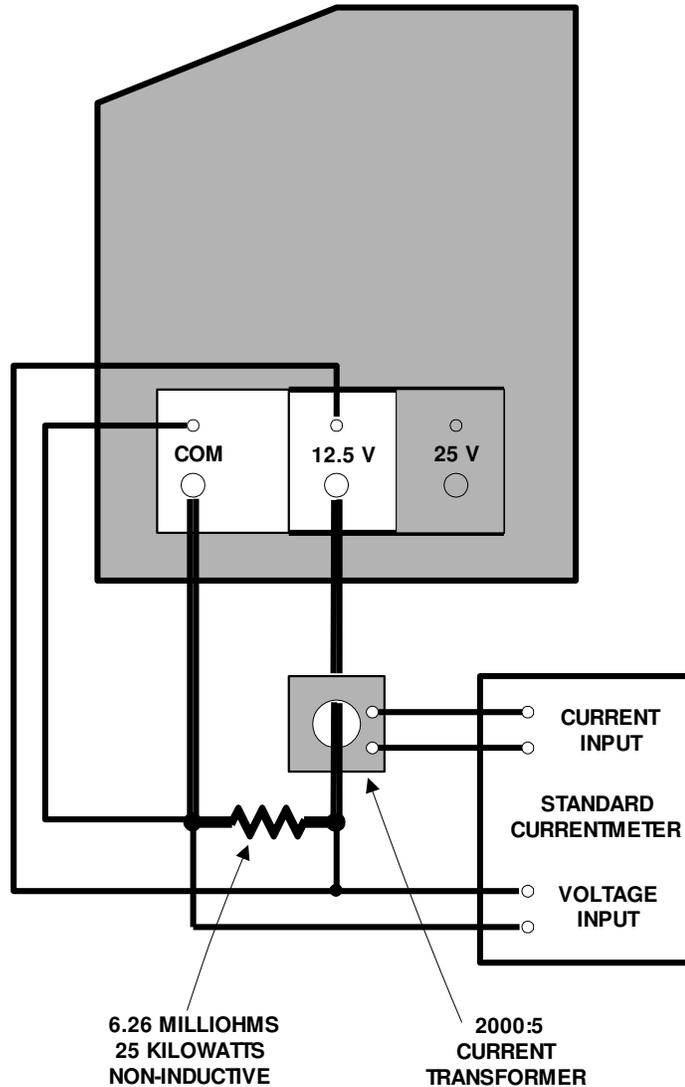

Figure 5-6. Kilowattmeter Calibration Set-up, 12.5 Volt Tap
1. Connect the test equipment to the Test Set as shown in Figure 5-6.